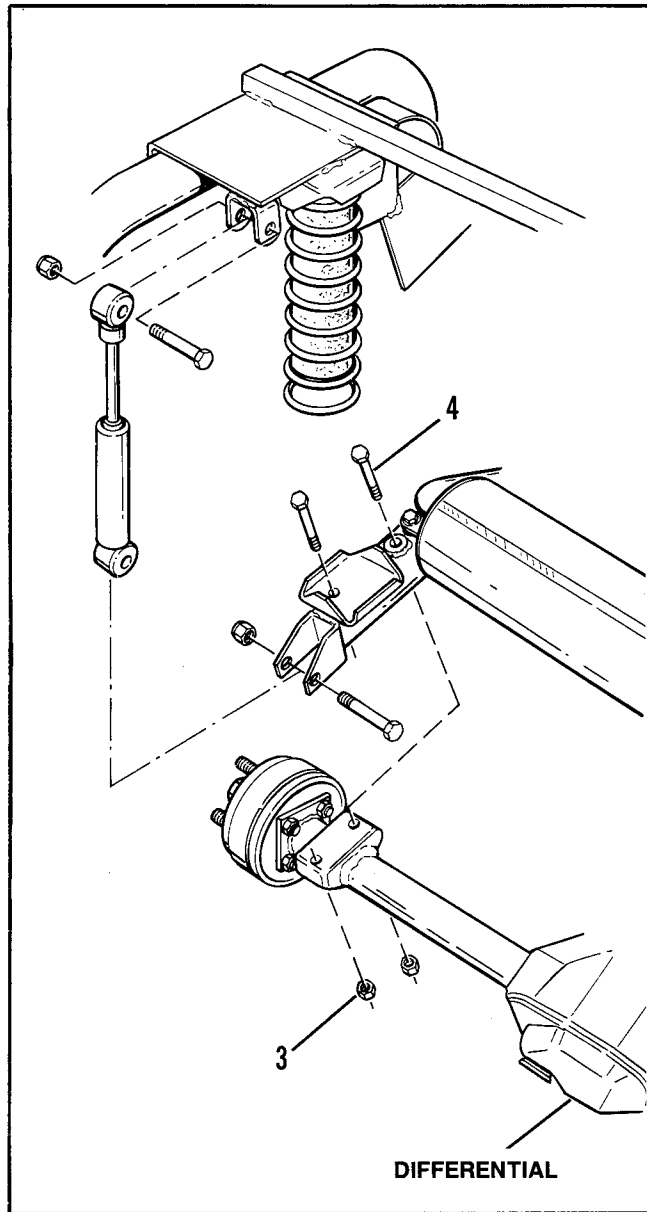

Figure 19 – Remove Differential Assembly
d. Remove four locknuts (3) and four bolts (4), Figure 19. When reinstalling four locknuts (3), torque to 30 ft.-lbs. (4.1 kgm).